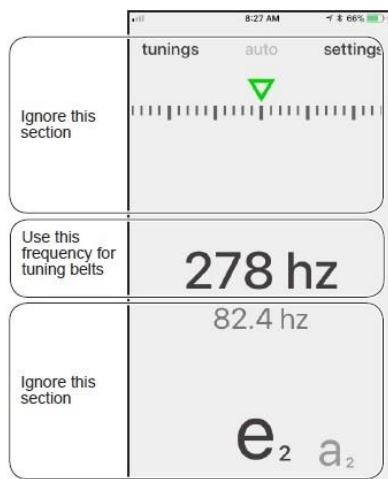

Figure 3
- Read the Hertz on the phone (example in Figure 3)